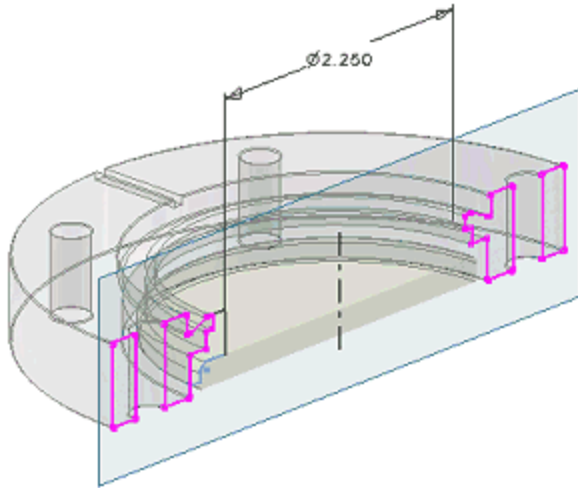

Figure 10: Projected Axis and Dimension.
9. Place a dimension between the projected axis and the vertical line as shown in Figure 10.